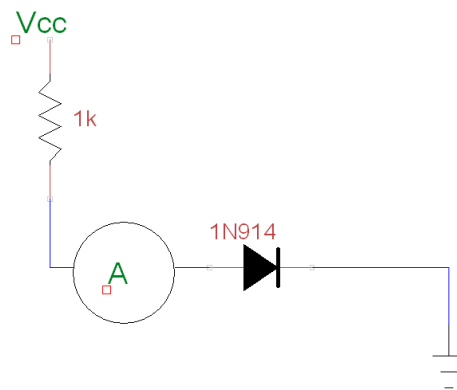

Figure 14. Circuit Schematic
7. Set up the circuit shown in Figure 14 and run your program.